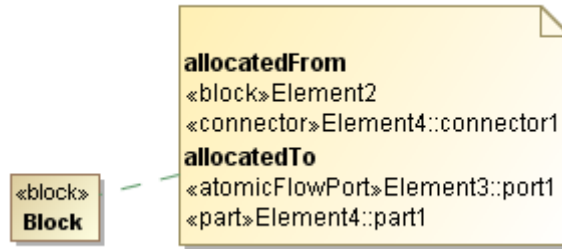

Figure 54 -- Callout Box with the SysML Callout Style
5. Select **Show Tagged Values** in the context menu of Note symbol to show the selected tagged values in callout box (Figure 54).